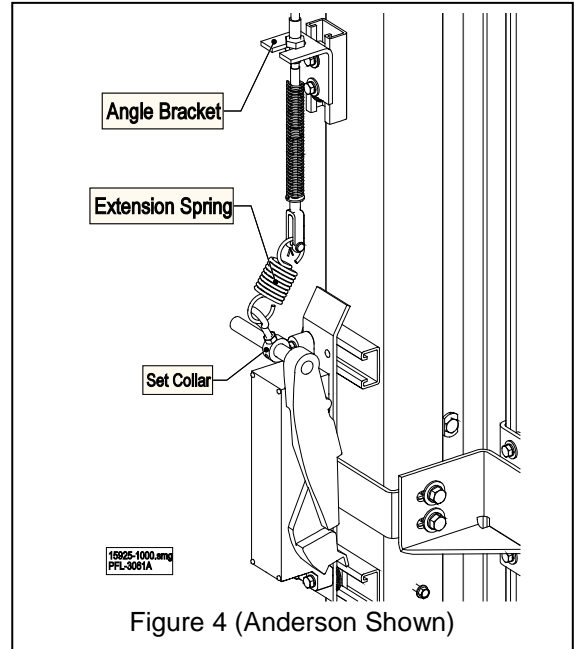

Figure 4 (Anderson Shown)
5. Locate and mark center of carriage. Using a carpenter square held on the front edge of the carriage, mark a chalk line on the floor to ensure center of the gate is on the center line of the carriage. **See Figure 4.**
The tension on the extension spring should be adjusted by positioning the cable on the angle bracket. The activation of the interlock is also adjusted by the position on the set collar. **See Figure 4.**